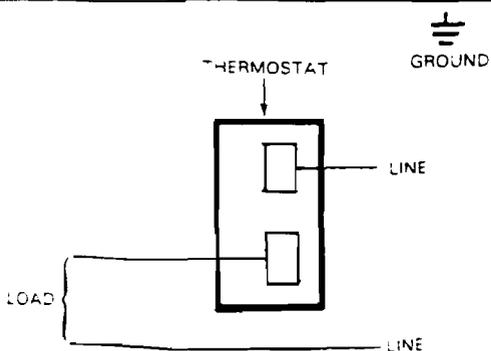
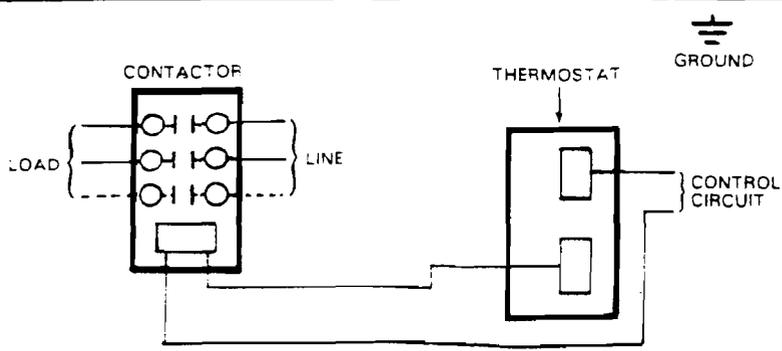

Figure 3 — Single phase loads when load does not exceed rating of thermostat.
Figure 4 — Single phase loads when load exceeds rating of thermostat and three phase loads.
4. Connect wires according to wiring diagrams (Figures 3 and 4). **Note:** Electrical connections should be made with generous loops of wire — approximately 6" per lead. **Note:** If load amperage or voltage rating exceeds switch rating, a contactor must be used. Contactor and wiring to be supplied by customer. (See Figure 4)